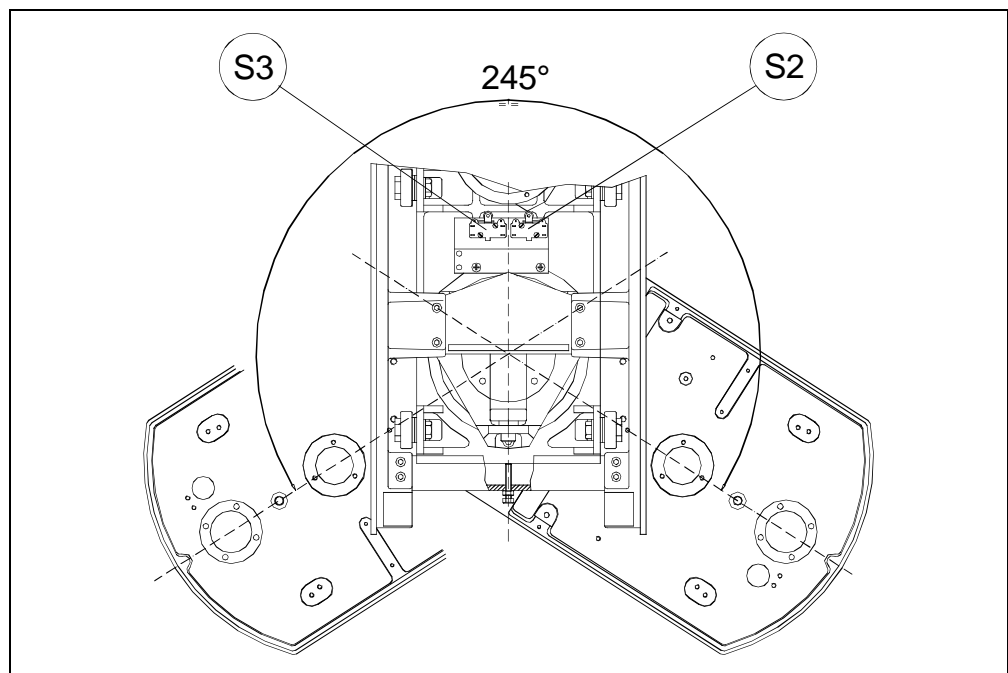

Figure 7-5
Another possible cause is the failure of one of the start/stop rotation microswitch S2/S3 (see Figure 7-5). Check the microswitch and/or connections.
- 2.** Manually move gently the rotating arm to the 0° position, until reaching the relevant microswitch S2 (see Figure 7-5).
8. Press the "**R**" key (32; Reset); the arm will rotate up to reach the 0° position.
9. Switch OFF the unit ; switch it back ON by activating the set-up function (see above Note 2) and press the "**T**" (31) button: the display will shown A/D followed by a number; press the "**decrease**" key (40) to store the value corresponding to the 0° position.
10. Press key "**T**" (31) to store the value.
11. Rotate the arm by pressing and holding the "**T**" key (31) checking that the end run angle is 245° .